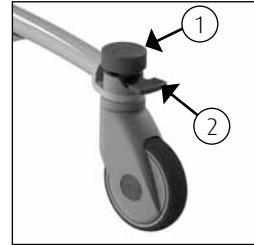

Figure 2 Swivel wheel.
- The brake can be applied on the Elexo XXL by pushing the blue cap (1) on the wheel downwards (See figure 2).
- To take the Elexo XXL off the brake, the lip (2) on the wheel must be pushed downwards.